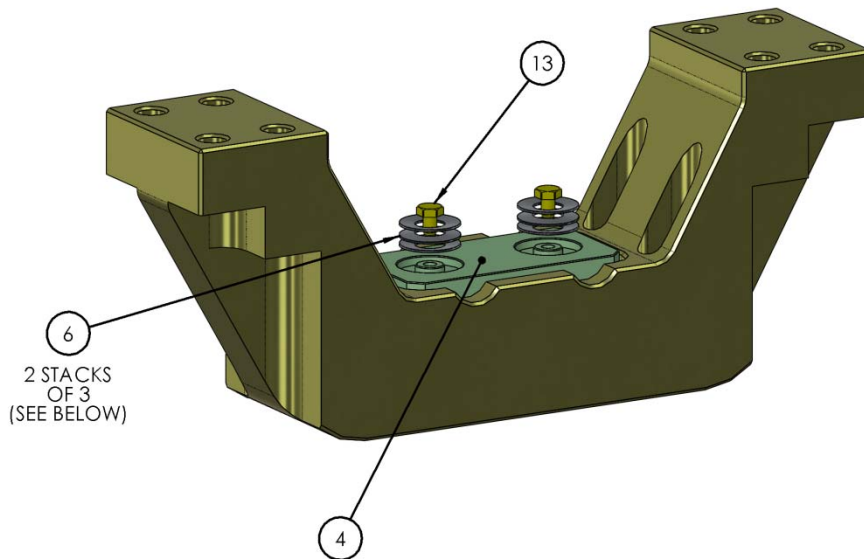
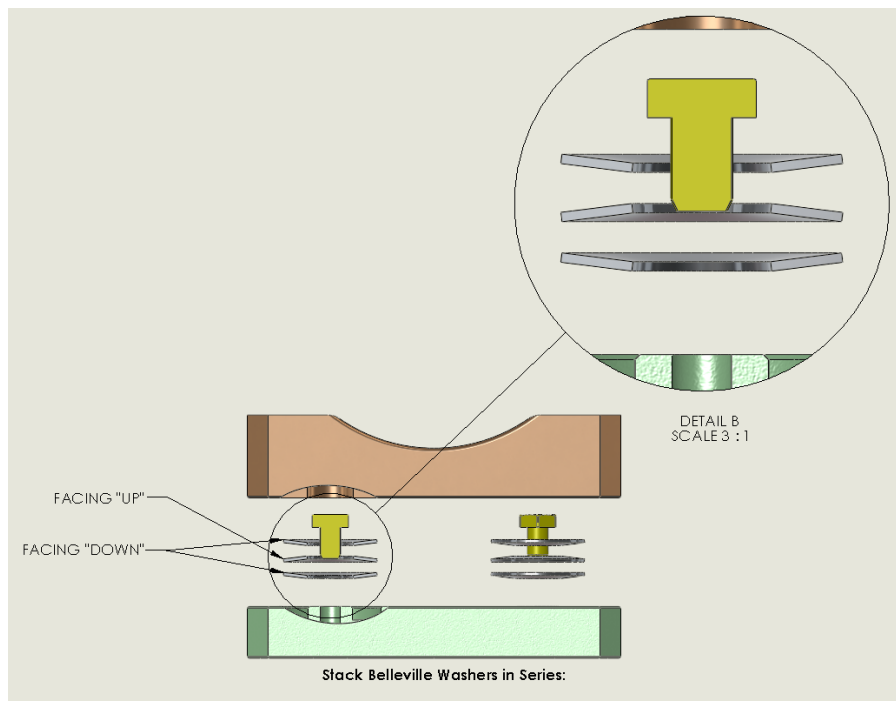

Figure 11
Figure 12
6.5 Install the bottom portion of the Clamps. First place Clamp Washer plate Item (4) (D080377) as shown in Figure 11 into Clamp Cap (D080375), including the Belleville washers Item (6) and hex screw item (13). Be sure to assemble as shown in Figure 12. The Hex screw does nothing more than to prevent the top Belleville washer from sliding off.
6.6 Place Clamp Preload (D080376) Item 3 on top of the stack Figure 12 and 13. Once all parts are in place insert Item (10) 1/2-13 x 2" bolts as shown they will engage item (4) with shallow c-bores this is to prevent the part from walking as the preload is applied. The screws when tighten will apply a preload to the Support Tube (D972610) only loosely tighten at this point. Note Item (11) is a screw guard and may be applied at any point after this step using Item (12) 10-32 screw.